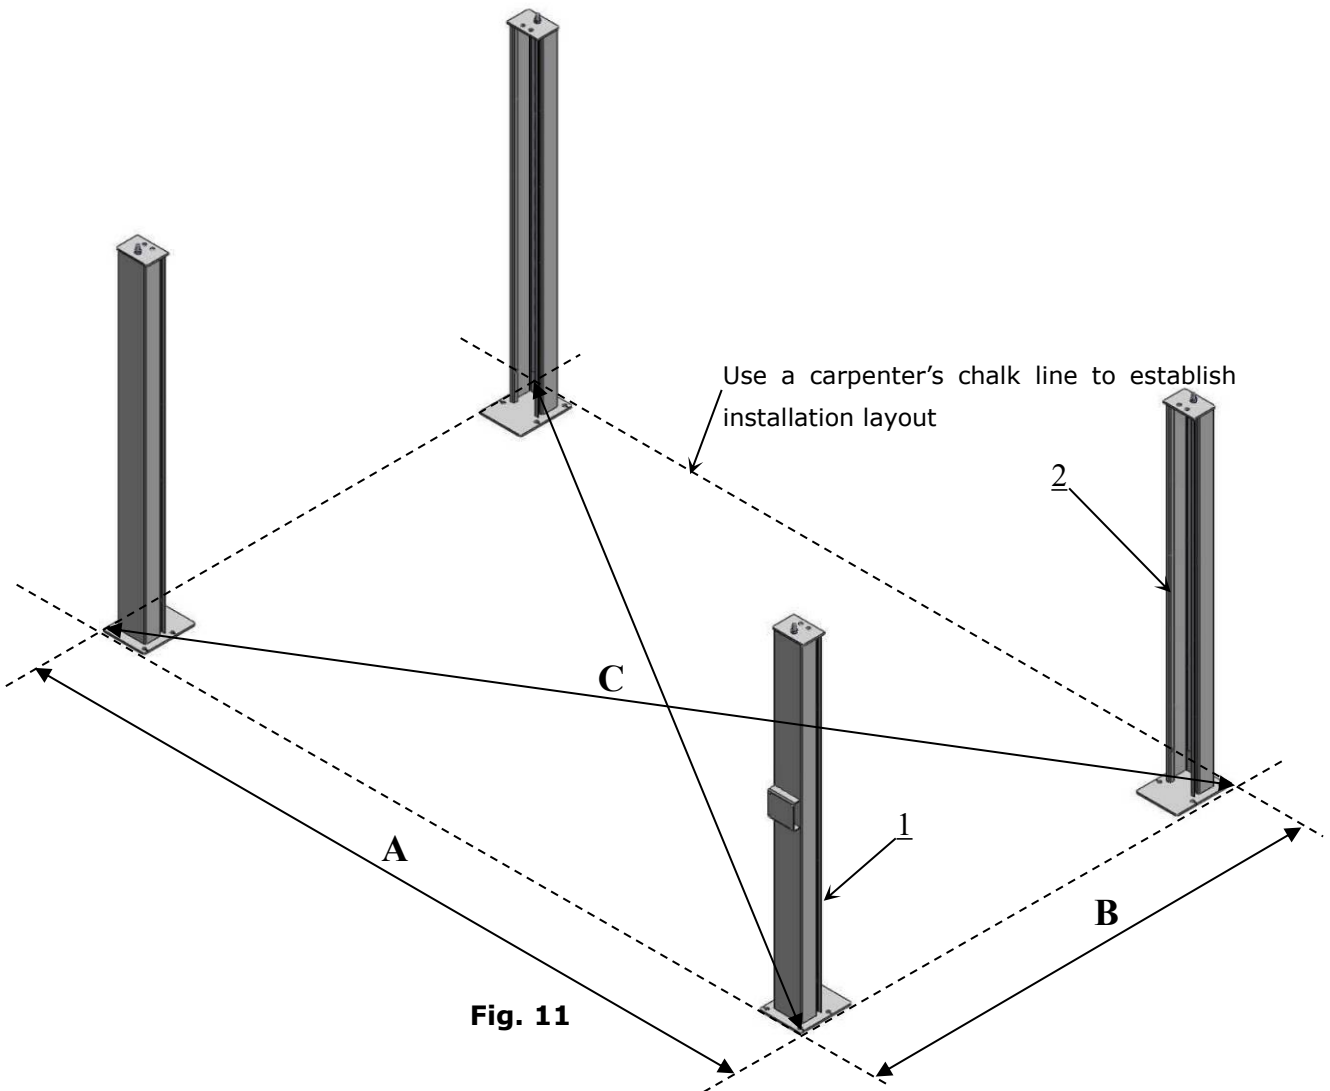

Fig. 11
B. Use a carpenter’s chalk line to establish installation layout as per Table 1. Make sure the size is right and base is flat (see Fig. 11).